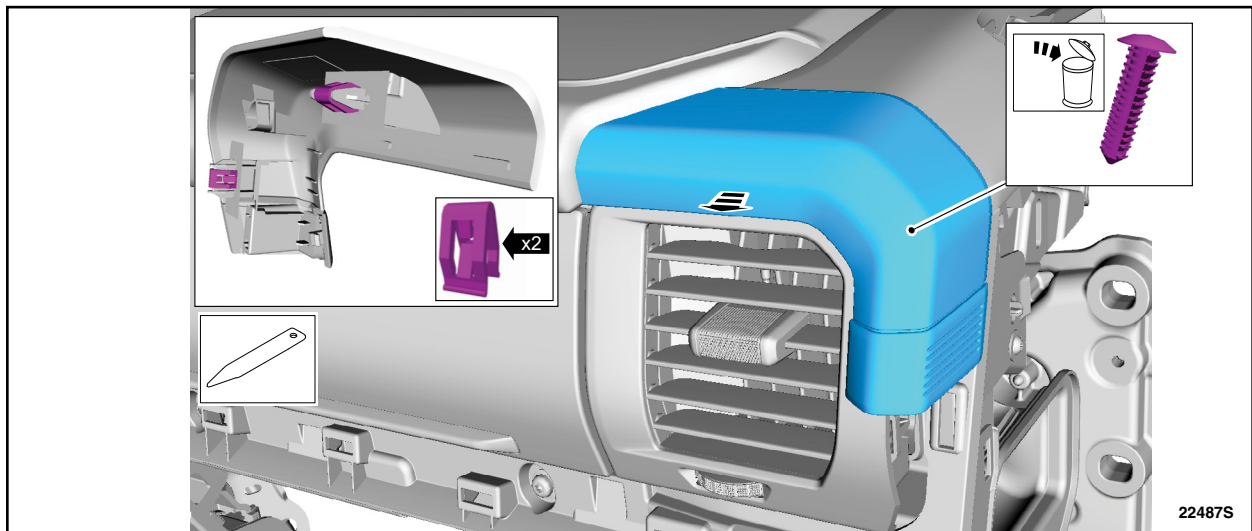

**FIGURE 16**
17. Remove the bolts, disconnect the electrical connectors and remove the display unit. See Figure 16.